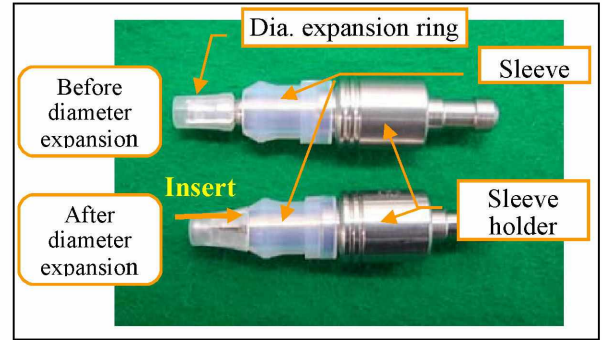

Fig. 32 - Setting the sleeve
- Install to insertion tool JT-C3 the sleeve holder and then the sleeve as shown in Fig. 32 for the state before the diameter has been expanded.
- After the sleeve has been set, push the diameter expansion ring toward the sleeve until it clicks (see Fig. 32 for the state after the diameter has been expanded and Table 16 for the applicable parts).